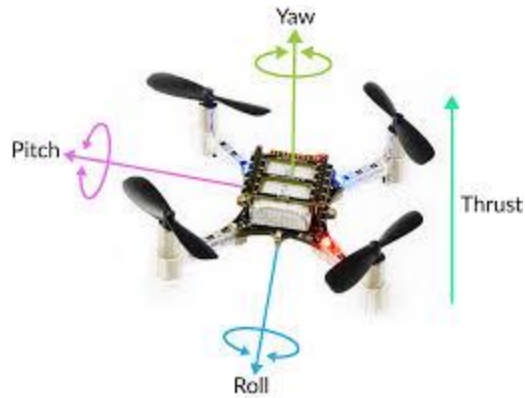

Figure 3: CrazyFly Axes
- d. Orient the CrazyFly so that the antennal is pointed down the -y-axis with respect to the Vicon. In other words, line up the CrazyFly’s roll axis (shown in Figure 3) with the Vicon’s -y-axis.
- a. Secure the battery in the same way as shown in Figure 3 and connect the battery. **If the battery feels “inflated” or excessively hot, pick a different battery and set the old one aside and/or mark as “bad”, and alert the lab safety supervisor as this battery may be in danger of exploding!**